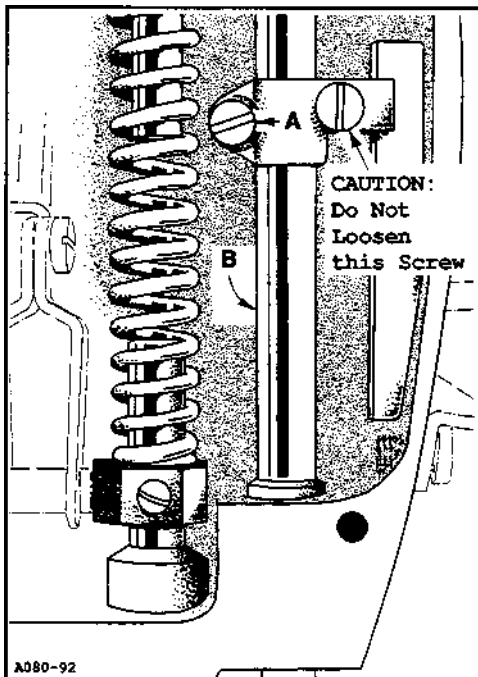

Fig. 3
The height of the needle bar is correct when the needle points are from $1/21$ " to $17/32$ " (12.7mm to 13.5mm) above the top surface of the throat plate and the needle bar is at the top of its stroke. If adjustment is necessary loosen needle bar clamp screw (A, Fig. 3) and move needle bar (B) up or down. Torque screw (A) to 20 in. lbs. (2.3Nm).